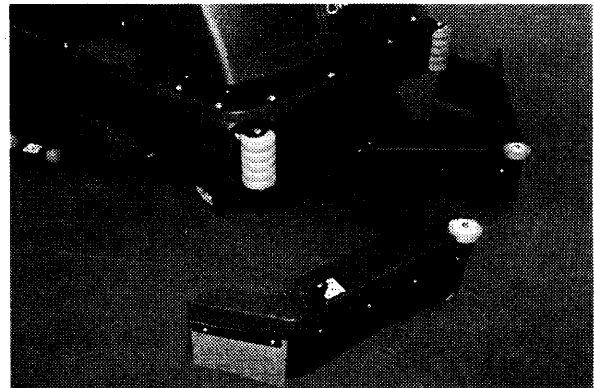

Figure 30
3. Unfasten two skirt latches and hinge open skirts to access motor hubs (Fig. 30).